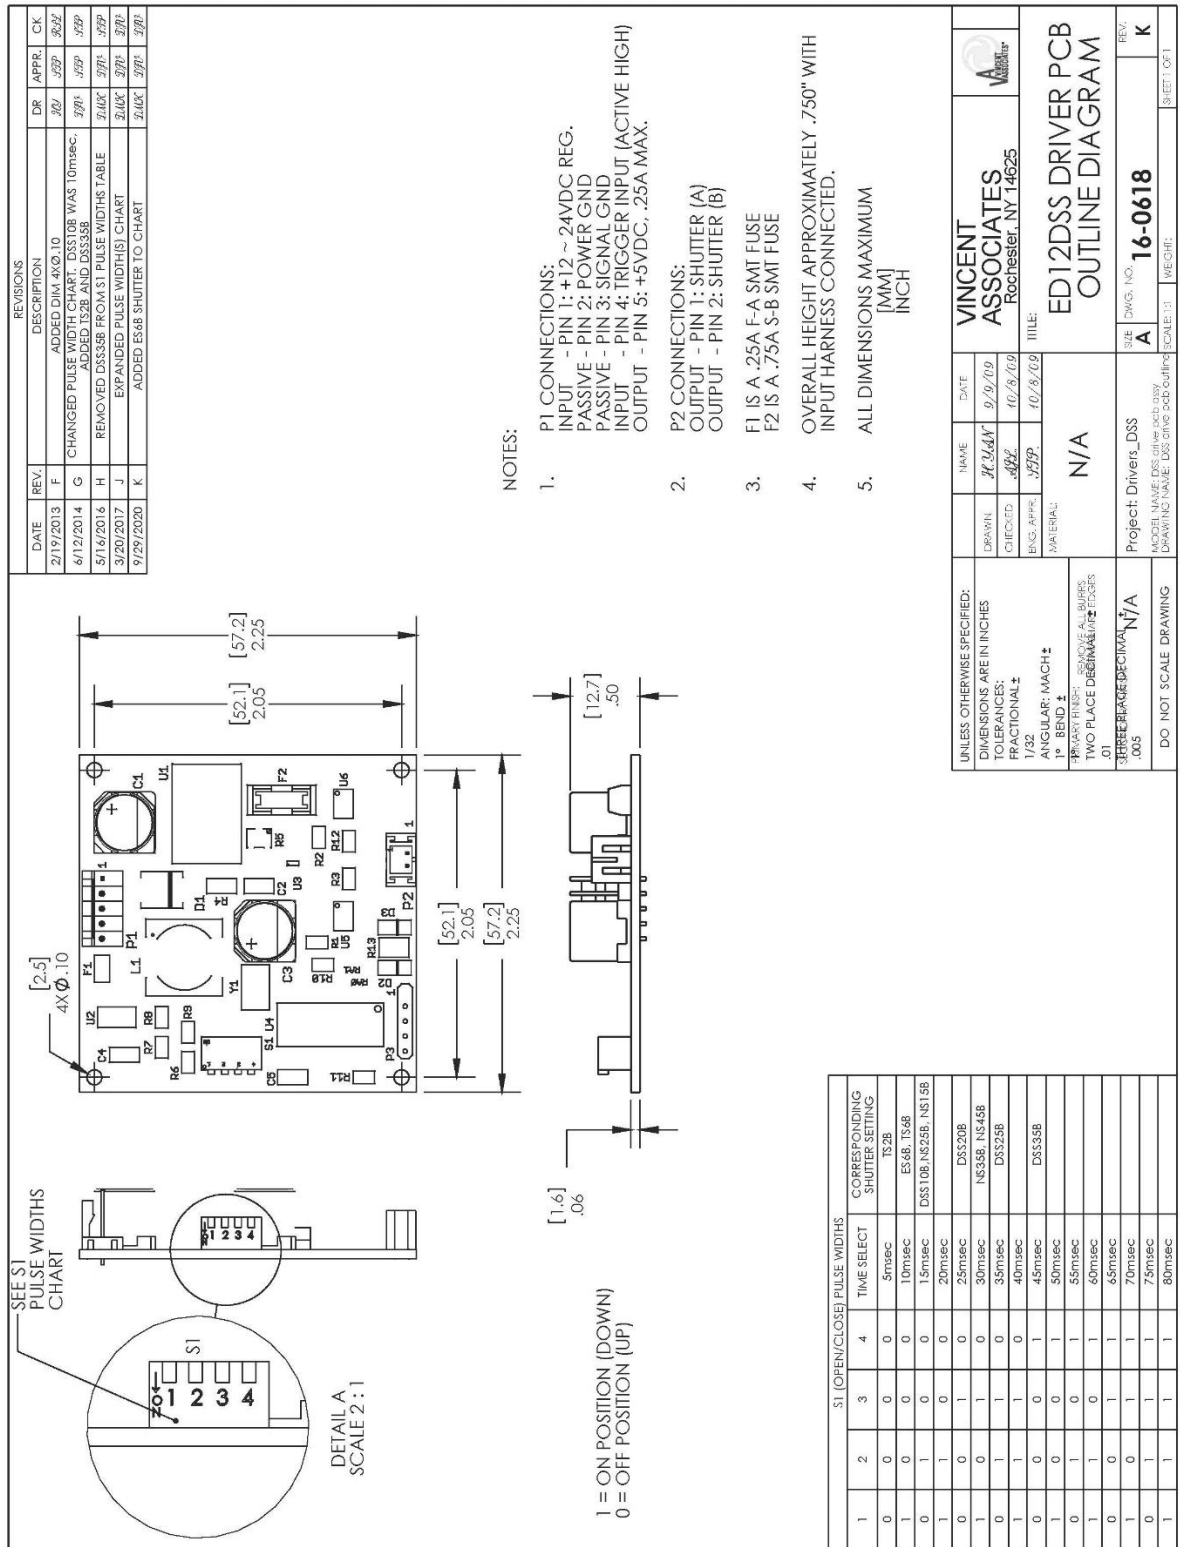

Figure 1: ED12DSS Connection – I/O Layout2
3. Set S1 to the pulse duration required for the shutter being used. See **SPECIFICATIONS** and Figure 1 elsewhere in this manual for required settings.
The on-board microprocessor accepts a pulse with determined exposure time and produces a bi-stable open and close pulse whose duration is selected by the on-board piano switch, S1. Please see Figure 1.
SHUTTER OUTPUT (JST 2-pin connector) P2	<ul style="list-style-type: none">• P2-Pin 1• P2-Pin 2• Shutter drive signal H Switch output.• Factory adjusted to +10.7 VDC.• This circuit provides a drive pulse to open and drive pulse to close at the output.• These pulse durations are set by 4-position piano switch, S1. See PULSE SELECTION chart of Figure 1 for open/close pulses.